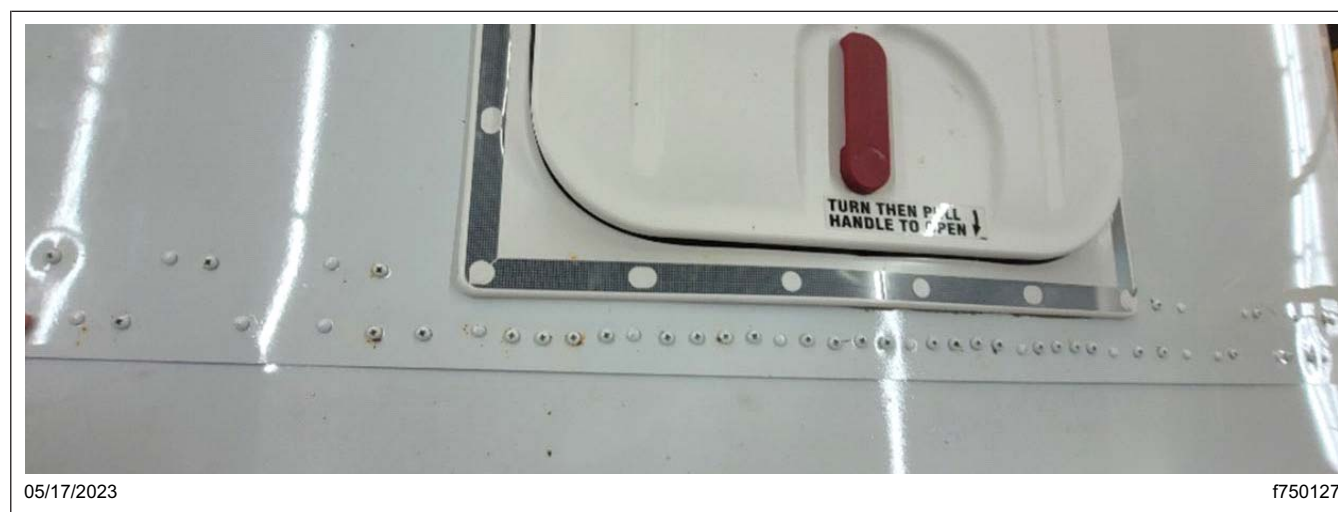

Fig. 23, Additional Screws Installed
35. Install a screw in each pilot hole, as shown in Fig. 23. See Table 4 for the number of screws to be added per joint.